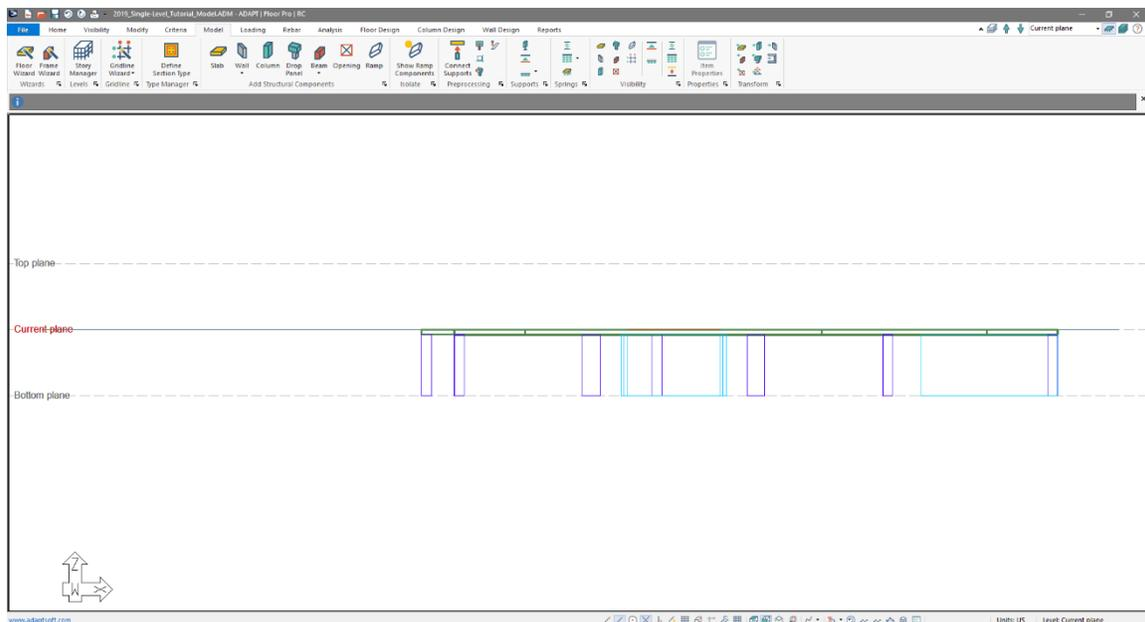

Figure 3-1
- Go to *Model* → *Preprocessing* → *Connect Supports*. The program will automatically shift the tops and bottom of the supports to the top/soffit of slab as shown in **FIGURE 3-1**.